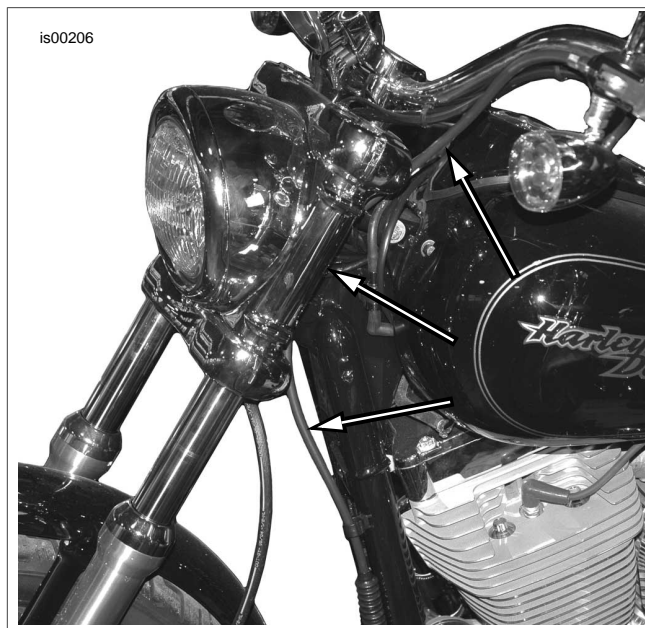

Figure 7. Clutch Cable Routing
3. See Figure 7. Route the clutch cable to the rear of the headlight nacelle as shown.